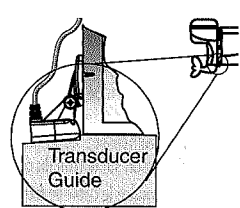

Figure 17
1. First, adjust the pivot angle of the transducer body, so its length is parallel with the length of the hull of the boat. Then, using the angle portion of the mounting template, pivot the transducer down so that it matches the template angle as shown on the template itself (Figure 17).
3. Before removing the template, adjust the height of the assembly so the face of the transducer touches the face of the template (Figure 17). Mark the position of the mounting bracket on the transom with a pencil.
- First, adjust the pivot angle of the transducer body, so its length is parallel with the length of the hull of the boat. Then, using the angle portion of the mounting template, pivot the transducer down so that it matches the template angle as shown on the template itself (Figure 17).
- Before removing the template, adjust the height of the assembly so the face of the transducer touches the face of the template (Figure 17). Mark the position of the mounting bracket on the transom with a pencil.